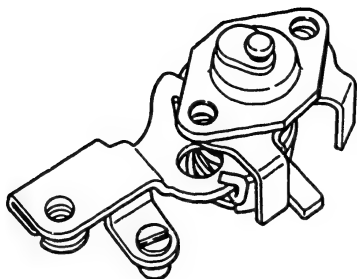

Fig. 179 M-C.S.D. assembly
1. Check that the M-C.S.D. assembly's levers, springs, ball pin and attaching face are not worn, damaged or scratched excessively. Replace the M-C.S.D. assembly if defective. (Fig. 179)